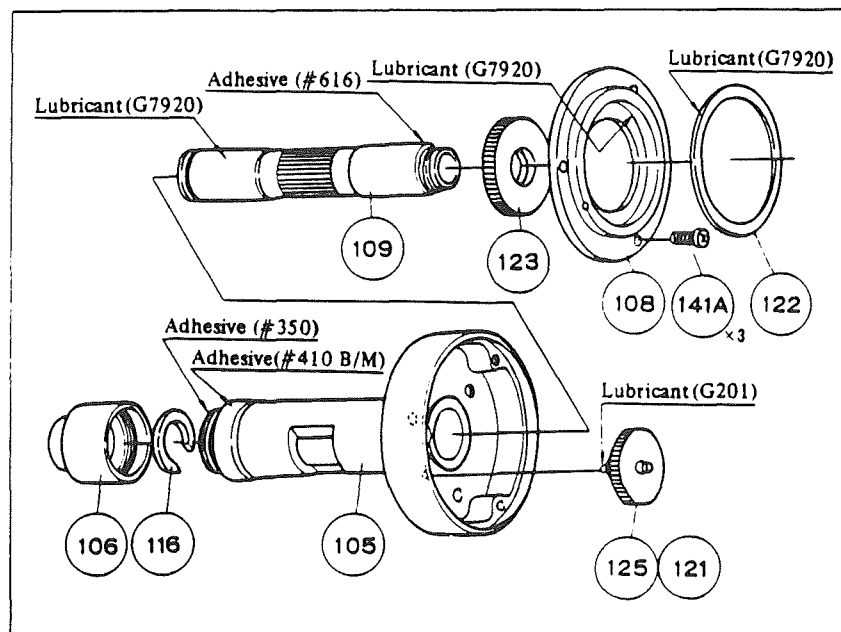

Fig. 36
< Field diaphragm (Fig. 36 and 37) >
- 4) Clean the thread of pinion case (105), using gasoline.
After drying, apply No. 350, and screw in coarse focus bearing (106). (Fig. 36).
- 7) Attach gears (121) and (125) to pinion case (105), and coarse focus knob bearing (108) (this should be cleaned, beforehand) to (105) by means of screws (141) x3. ((121) and (125) are to be oiled as shown in Fig. 36, after cleaned and dried.)